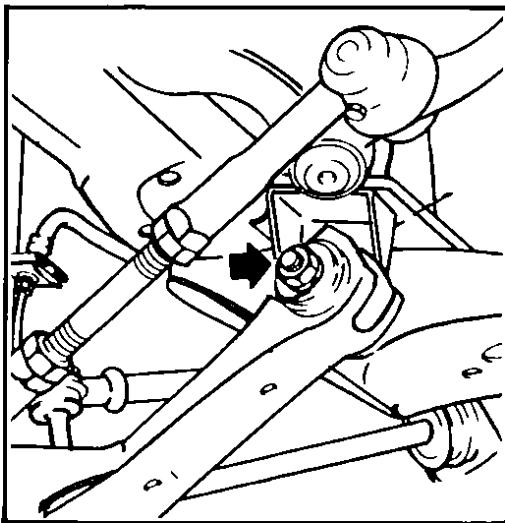

Fig 124 Removing transverse link
- Remove the transverse link with suspension ball joint and knuckle arm, Fig 124